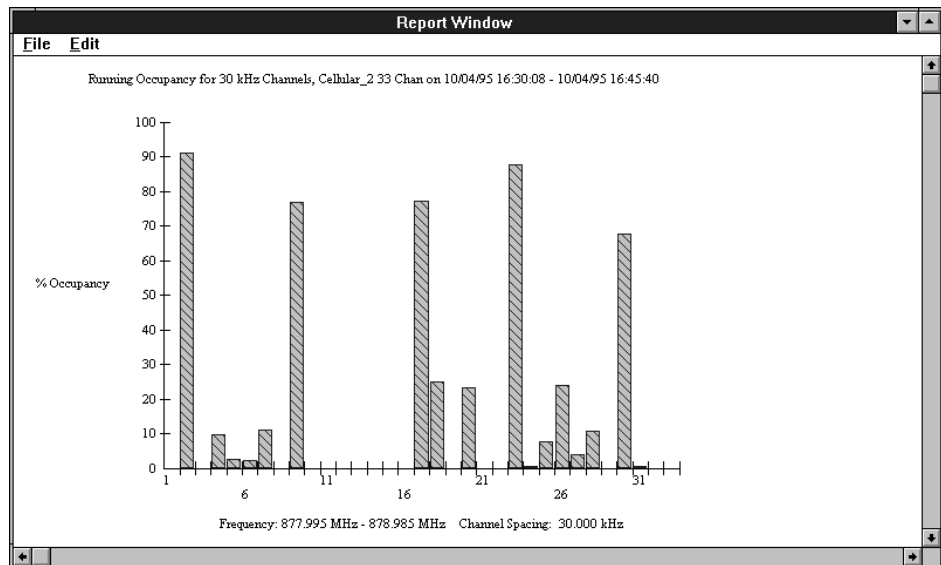

Figure 8-9: Typical Running Occupancy Report Display
- Click on **OK** to close the **Occupancy Date/Time Selection** dialog box and open the selected measurement type **Report Window** (Figure 8-9).